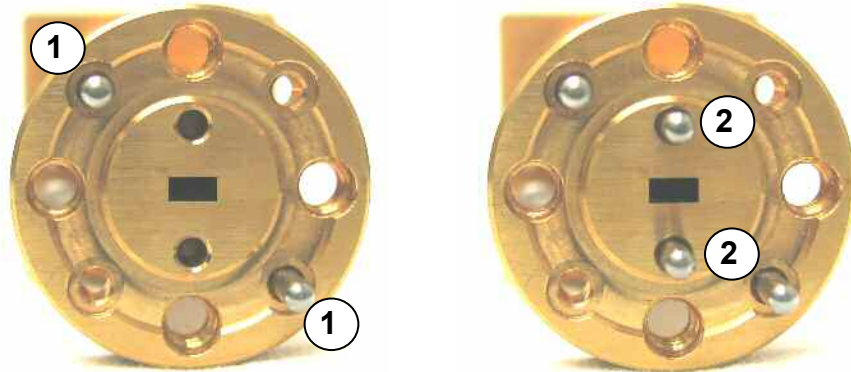
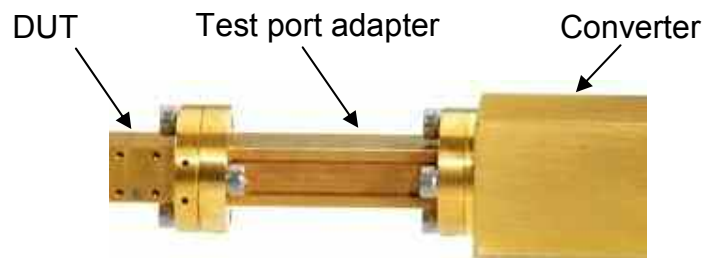

Fig. 2.1: UG-387 precision anti-cocking flange without and with indexing pins
Fig. 2.2: Recommended configuration for connecting a DUT to a converter
For waveguides above 50 GHz, the UG-387 flange is most commonly used. The converters are compatible with this flange. In accordance with the MIL specification, the UG-387 flange is to be used with alignment pins (Fig. 2.1 ①) with a diameter of 1.565 mm (0.0615 in) [2]. This diameter is supported by numerous manufacturers (e.g. Aerowave, Inc., Custom Microwave, Inc., M/A-COM/Tyco Electronics Ltd., and Flann Microwave Ltd.). Alignment pins with other diameters are also commonly used; an important manufacturer is Agilent Technologies, Inc., offering pins with a diameter of 1.605 mm (0.0630 in). To ensure compatibility also with this variant of the UG-387 flange, the converters come with two different variants of test port adapter (Fig. 2.2). One of the adapters is designed for use with 1.565 mm alignment pins. It makes highly accurate contact even without using indexing pins in addition (Fig. 2.1 ②). The second adapter is designed for use with alignment pins of both 1.565 mm and 1.605 mm in diameter. To achieve contacting as accurate as possible, it is advisable to use indexing pins in addition. Indexing pins are available for both test port adapters (precision flanges). The test port adapters have an outer rim that is designed to prevent cocking of the flanges relative to each other (anti-cocking flanges). It is also possible to connect DUTs with standard flanges (i.e. flanges not featuring the anti-cocking or precision characteristics mentioned above) to the test port adapters.
We recommend that you use a test port adapter (Fig. 2.2) in all measurements you make. This will effectively protect the converter flange against contamination, wear, scratching, or similar impairments.
² To further enhance accuracy, you can use the additional indexing pins (see Fig. 2.1 ©) to fix the standards of the R&S® ZV-WR10 calibration kit.